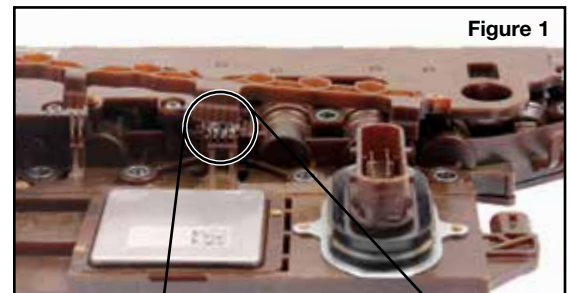
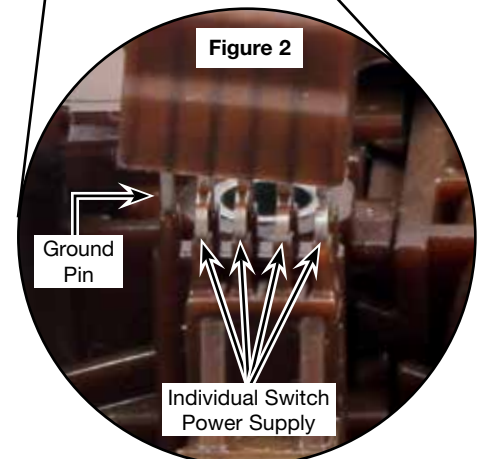

Figure 1
Figure 2
- Testing 6T70/75 switches:** Locate five-pin pressure switch terminals (**Figure 1**). Ground pin is all the way to the left; moving to the right, each pin is power supply for an individual switch (**Figure 2**). Place negative ohmmeter lead on ground pin and positive lead on a power supply pin. At rest, each switch should read between .5 and 10 ohms. Depressing switch with pencil eraser should result in O.L. reading.